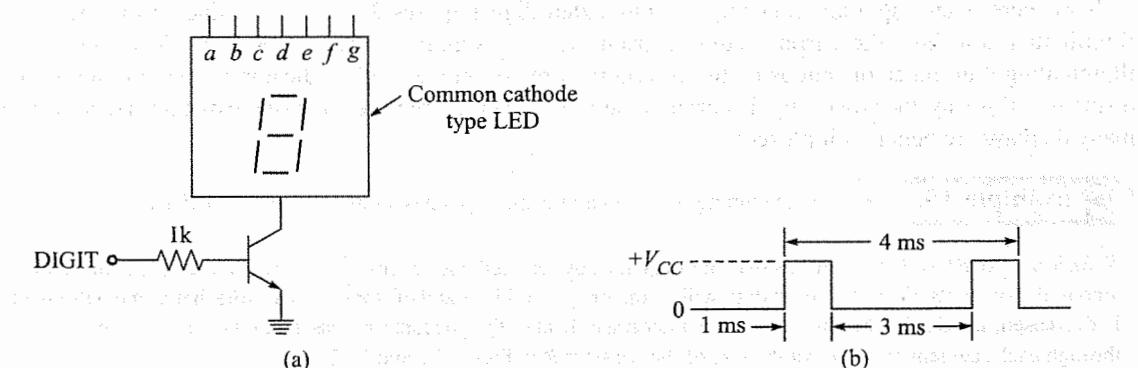

Fig. 15.5
**Solution** The *npn* transistor in Fig. 15.5 is used as a switch between the cathode of the display and ground. When the transistor is on, current is allowed to pass through a segment for illumination. When the transistor is off, no current is allowed, and the segment cannot illuminate. The DIGIT waveform is shown in Fig. 15.5b. Notice that a positive pulse is required to turn the transistor on, and the display will be illuminated for 1 out of every 4 ms.